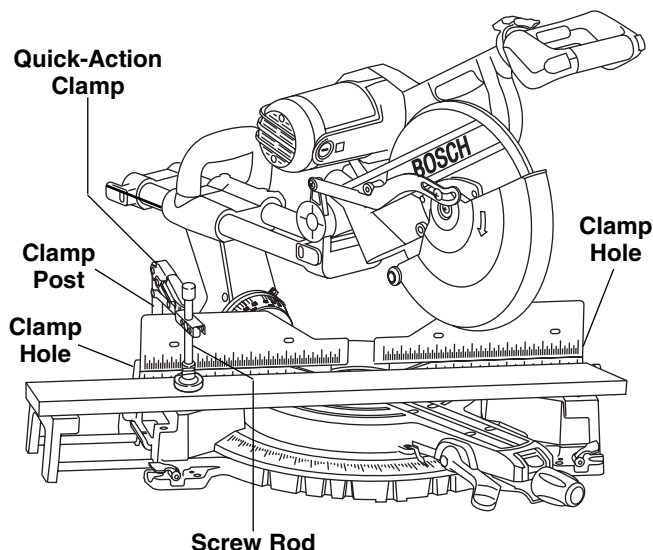

Figure 19. Quick-Action Clamp
Quick-Action Clamp - This clamp easily secures a workpiece in either of two (2) clamp holes behind the fence (Figure 19).